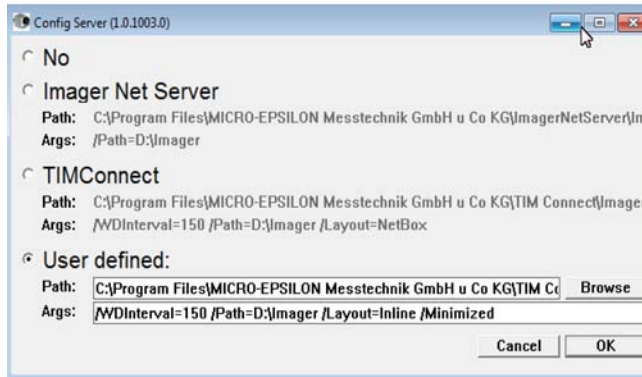

Fig. 6 Screen configuration dialog (Config Server)
Application Start Config	Starts the configuration dialog (Config Server), see <a href="#">Fig. 6</a> .
- For the Stand-alone operation with an IR camera please start `Application Start Config`, see Fig. 5 and then select `TIM Connect`, see Fig. 6.